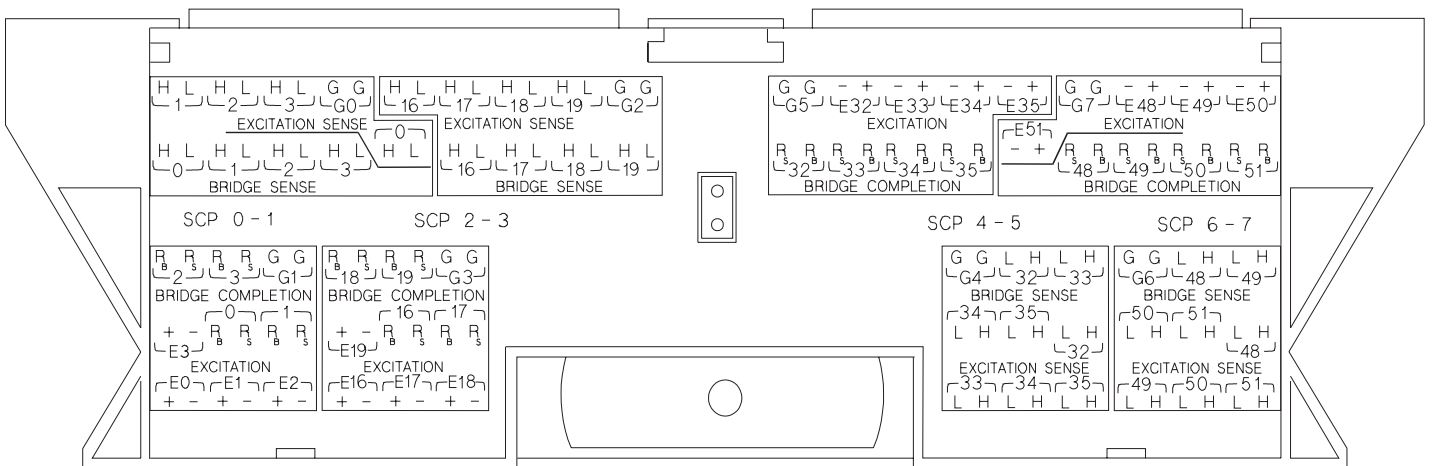

Figure 8 Agilent/HP E1413 Option 21 Terminal Module Connections
- For Agilent/HP E1413B and below Terminal Modules, use stickers for Agilent/HP E1413 Option 20 SCPs. The connections are shown in Figure 8.